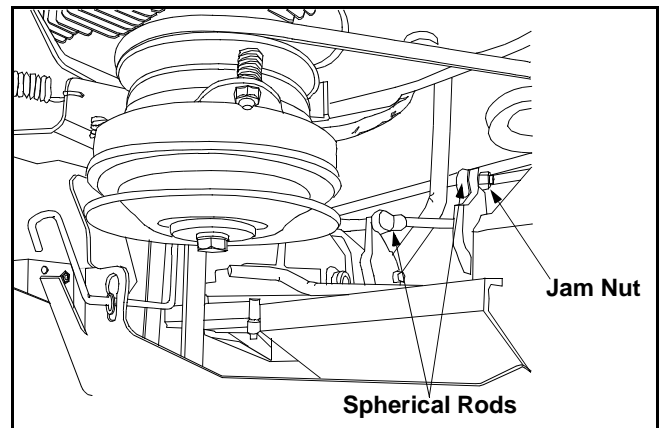

Figure 13
- With quarter inch by seven inch pins still installed in the top and bottom linkage arms, loosen the jam nuts at both the front and rear ends of linkage that runs from bottom linkage arms to hydrostatic pumps. See Figure 13.